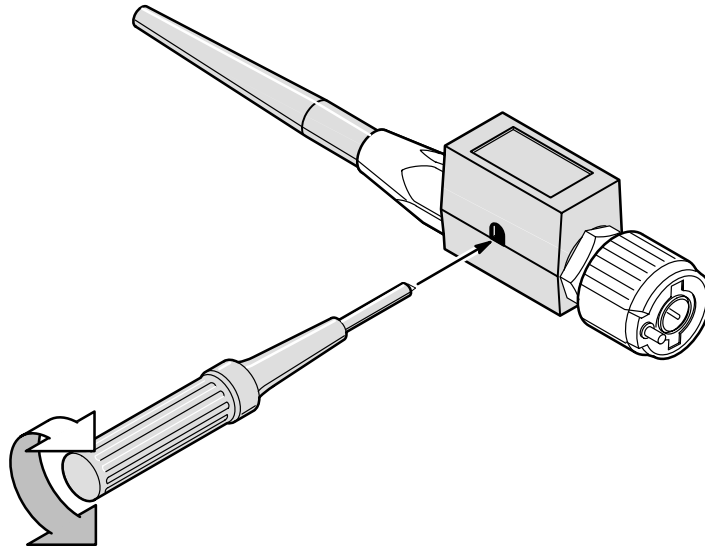

Figure 3-53: P6139A Probe Adjustment
5. Adjust the probe until you see a perfectly flat top square wave on the display. Figure 3-53 shows where the adjustment is located.